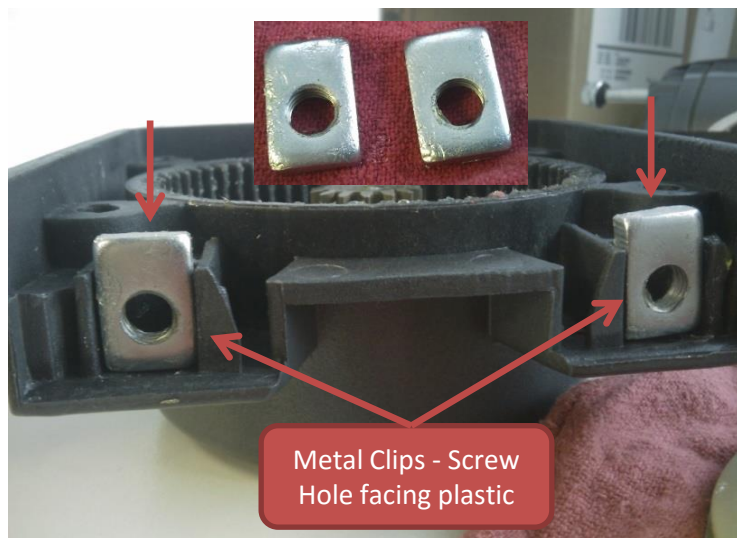

Figure 19
Locate the two (2) metal clips and insert them into the base of the plastic housing with the side of the clip that is closest to the screw hole set nearest to the plastic housing (See Figure 19)